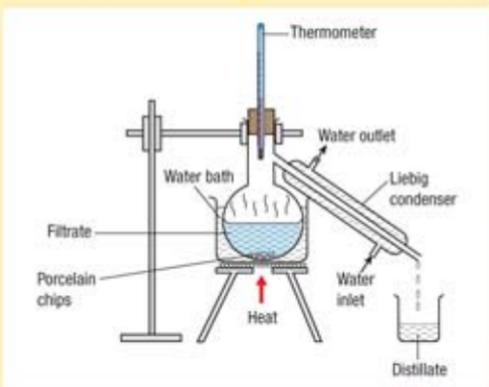

Figure 5.14
- Distill the contents in the distillation flask using the apparatus set-up shown in Figure 5.14.